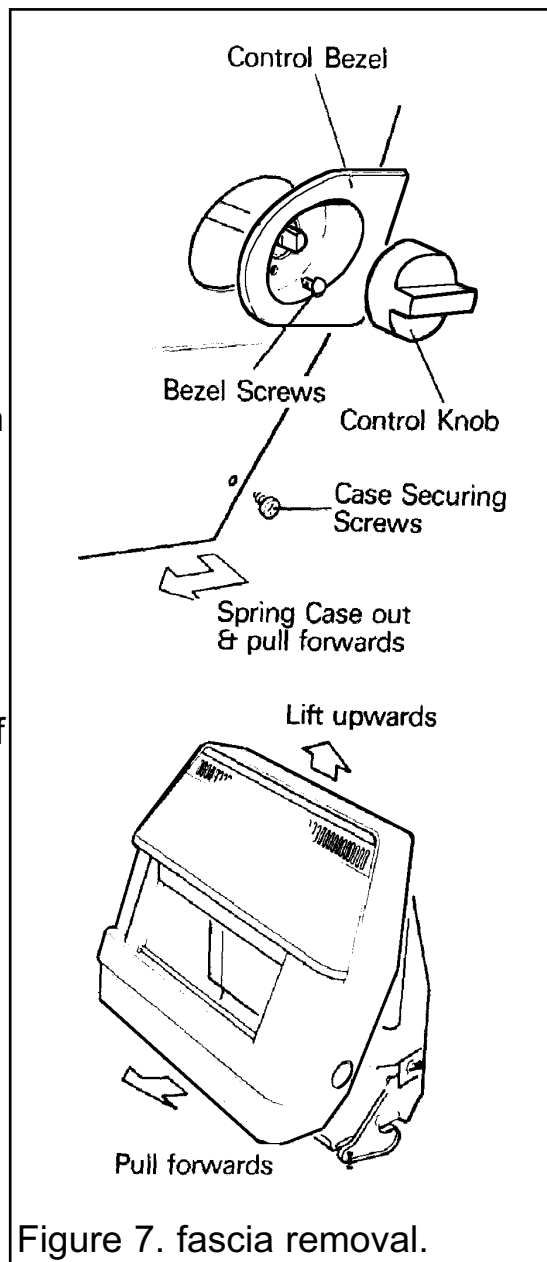

Figure 7. fascia removal.
5. Remove the control bezel by unscrewing two screws (See figure 7).
6. Detach the fascia by removing the screws at the fascia sides (See figure 7).
7. Pull the bottom of the fascia forward while springing the bottom corners outward to clear the fixing brackets. Lift the fascia upward and forward to clear (See figure 7). Place carefully to one side.